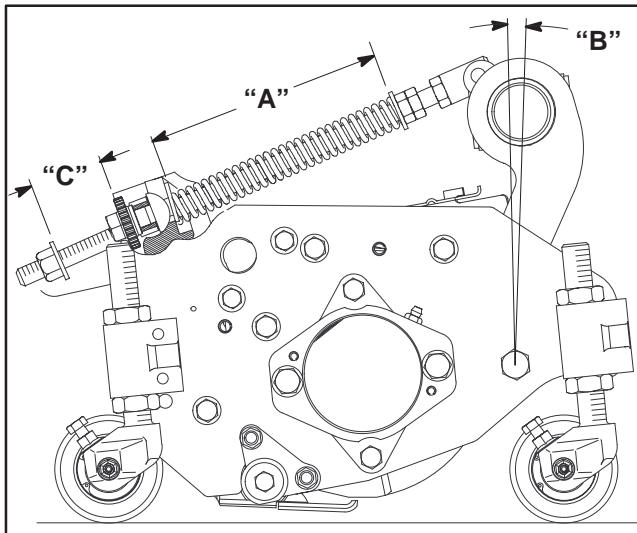

Figure 9
The Turf Compensation Spring (Fig. 9), connecting carrier frame to cutting unit, controls the amount of fore-aft rotation available, as well as the amount of ground clearance in transport and turn around.
1. Tighten lock nut on rear of spring rod until the gap (C) between rear of spring bracket and front of washer is 1" (26 mm) (Fig. 9).
2. Tighten hex nuts on front end of spring rod until the compressed length (A) of spring is 8" (203 mm) (Fig. 9).
NOTE: When cutting rough or undulating turf, increase compressed length (A) of spring to 8-1/2" (216 mm) and gap (C) between rear of spring bracket and front of washer to 1-1/2" (39 mm) (Fig. 9).